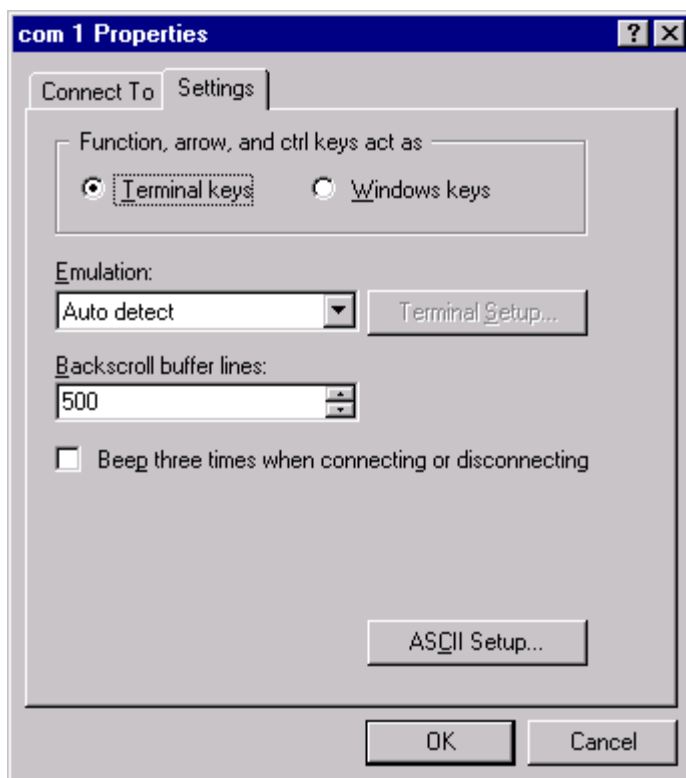
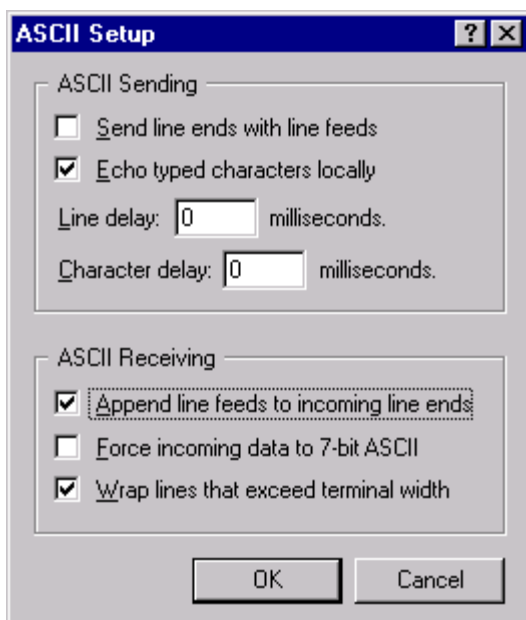

Figure 1-5
Figure 1-6
- 7) With the Hyper Terminal window open click on **File** then highlight **Properties**. When Properties window pops up click the **Settings** tab as shown in figure 1-5.
- 8) Now click on the **ASCII Setup...** box as shown in figure 1-5. A window for ASCII Setup will appear as shown in figure 1-6. You will need to check **Echo typed characters locally** and **Append line feeds to incoming line ends** as shown in figure 1-6. Click OK.